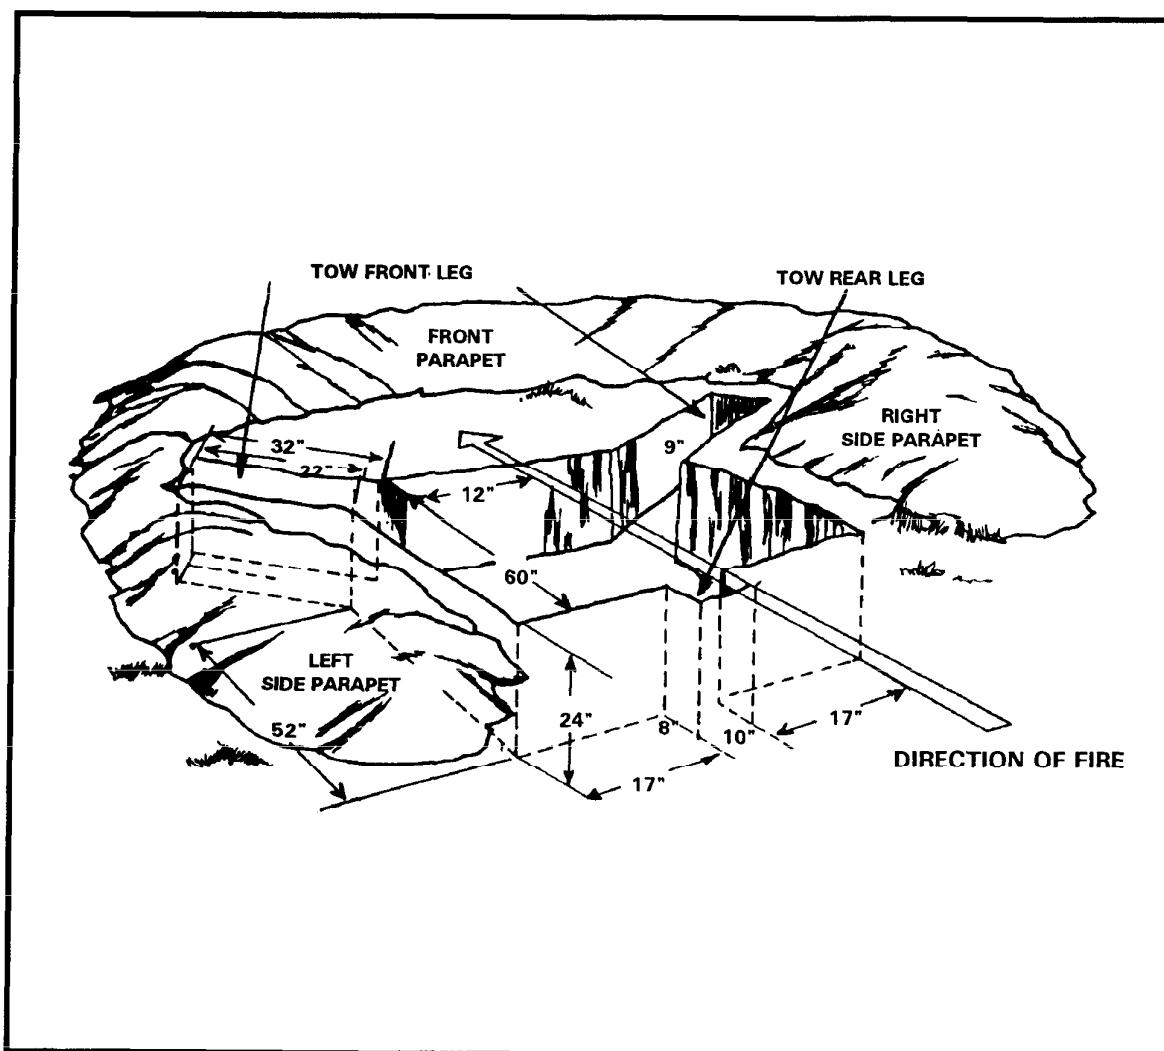

Figure D-1. Tripod-mounted TOW fighting position.
- (1) Assemble the launcher.
- (2) Clear the fields of fire while ensuring the sector is under observation.
- (3) Dig the weapon position first, then add overhead protection for the crew.
- (4) Build a parapet to the front and flanks of the position.
- (5) Disconnect the MGS and place it in the position made for it. Place the launcher into the position. Reconnect the MGS and check the boresight.
- (6) Improve the position by adding overhead cover for the crew and system.
- (7) Camouflage the position.
- (8) Inspect the position and its camouflage. If possible, move at least 35 meters to the front of the position and study it.
- b. The initial position should look like Figure D-1, page D-2.
- (1) Make the position 24 inches deep.
- (2) Make the parapet at least 18 inches thick to keep out small-arms fire and artillery fragments. It should provide 9 inches of muzzle clearance under the launch tube.
- (3) Do not place dirt or equipment in the backblast area.
- (4) Scoop out a place for the MGS either under or to the front of the tripod.